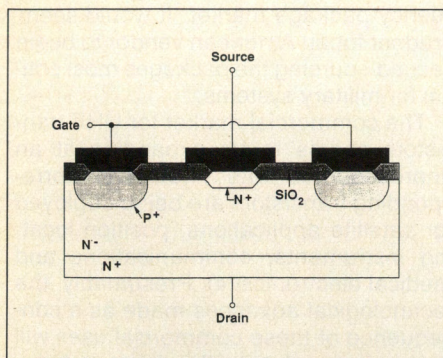

Figure 4. Simplified cross section of a solid state triode (Courtesy of Adrian Cogan, MicroWave Technology).
A variation of the static induction transistor is illustrated in Figure 4 and is being commercially produced under the trade name "solid state triode" (6). The current flowing out of the SST is a function of both the gate and the drain potentials. Consequently, the SST exhibits the familiar triode-like charac-